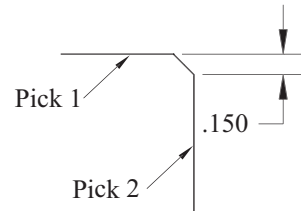

Figure 22
54. **Pick the necessary lines as shown in Figure 22 and press Enter to accept.**